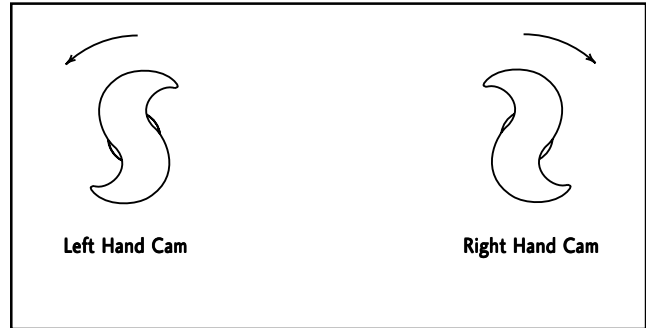

Figure 12
1. Prior to reassembly, verify the part number is correct there are L.H. and R.H. camshafts and they can not be interchanged. See Figure 12.